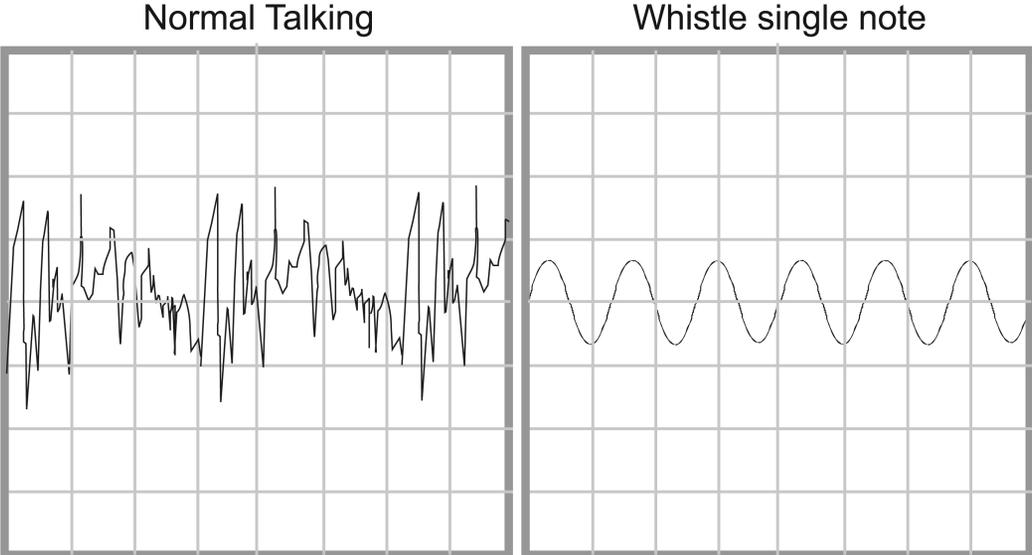

Figure A1-8
4. Amplified wave form. To get it to fit, you will have settings at 10 mV/division. The drawing should look very much like the first one, but the amplitude has changed (Figure A1-8).